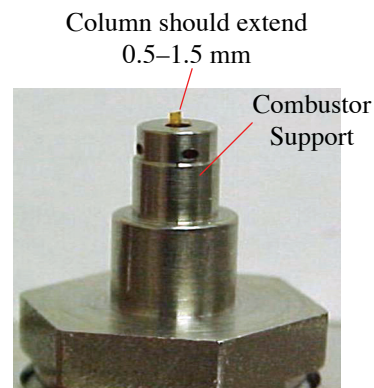

Figure 4.38. Combustor assembly
- Carefully pull the capillary column down until the column extends only 0.5 mm to 1.5 mm above the top of the combustor support (Figure 4.38). Tighten the GC column nut to hold the column in position. Using a magnifying glass, verify the top of the column is correctly positioned 0.5 mm to 1.5 mm above the top of the combustor support.
NOTE: For optimal performance, the column must be 0.5–1.0 mm above the combustor support (Figure 4.38).